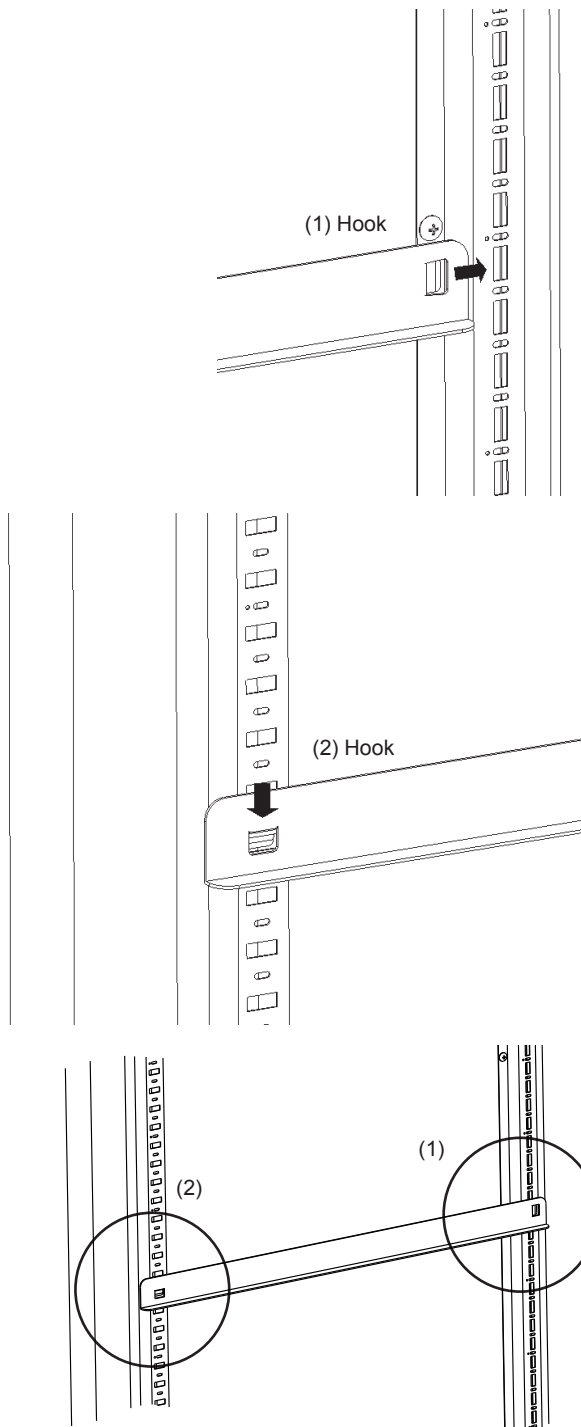

Fig. 9
- * To attach the rail, (1) push the rail hook backwards to fit into the square hole in the rear shelf post, and (2) push the rail hook down to fit into the square hole in the front shelf post. To detach the rail, reverse the above procedure. See Fig. 9.